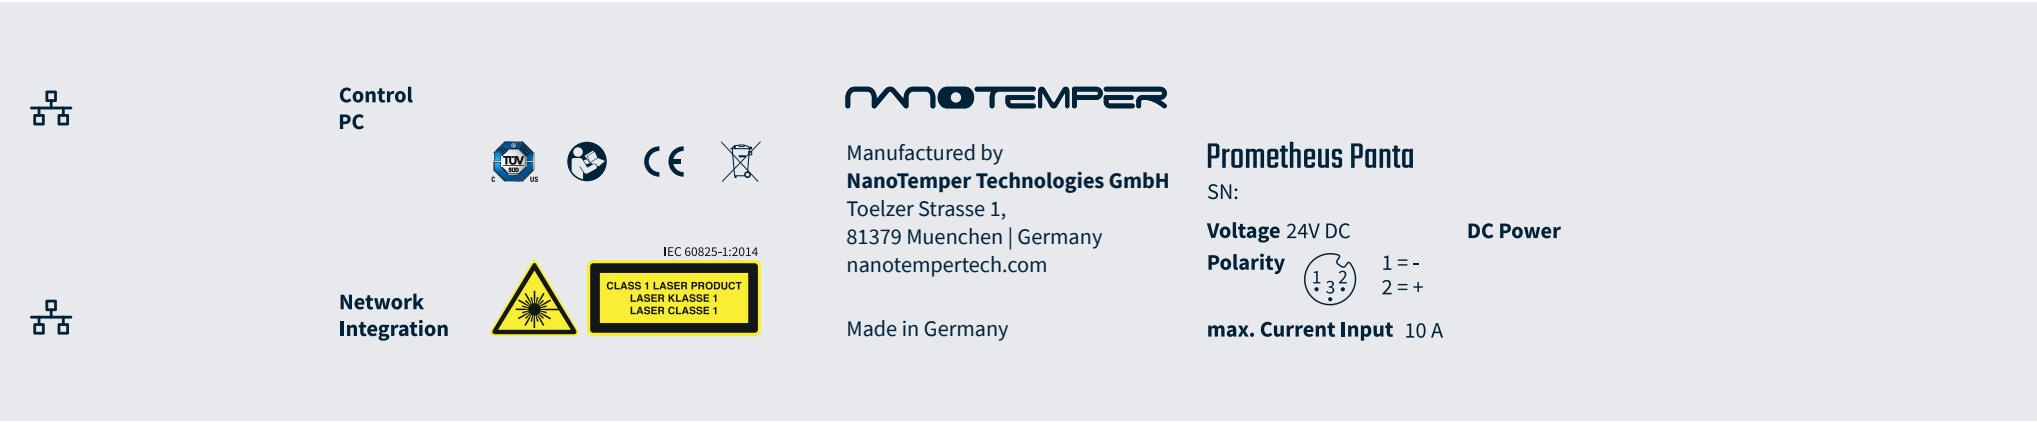

Figure 1: Identification labels for Prometheus Panta.
The identification labels (Figure 1) are positioned at the rear panel of the instrument. They include manufacturer information, system model name and serial number (SN), electrical requirements, and the CE and NRTL conformity symbol.